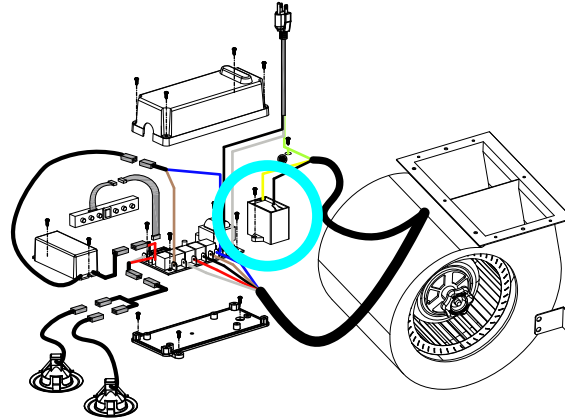

Figure 1
3. Remove the screw securing the capacitor (circled in blue) to the circuit board. Figure 1